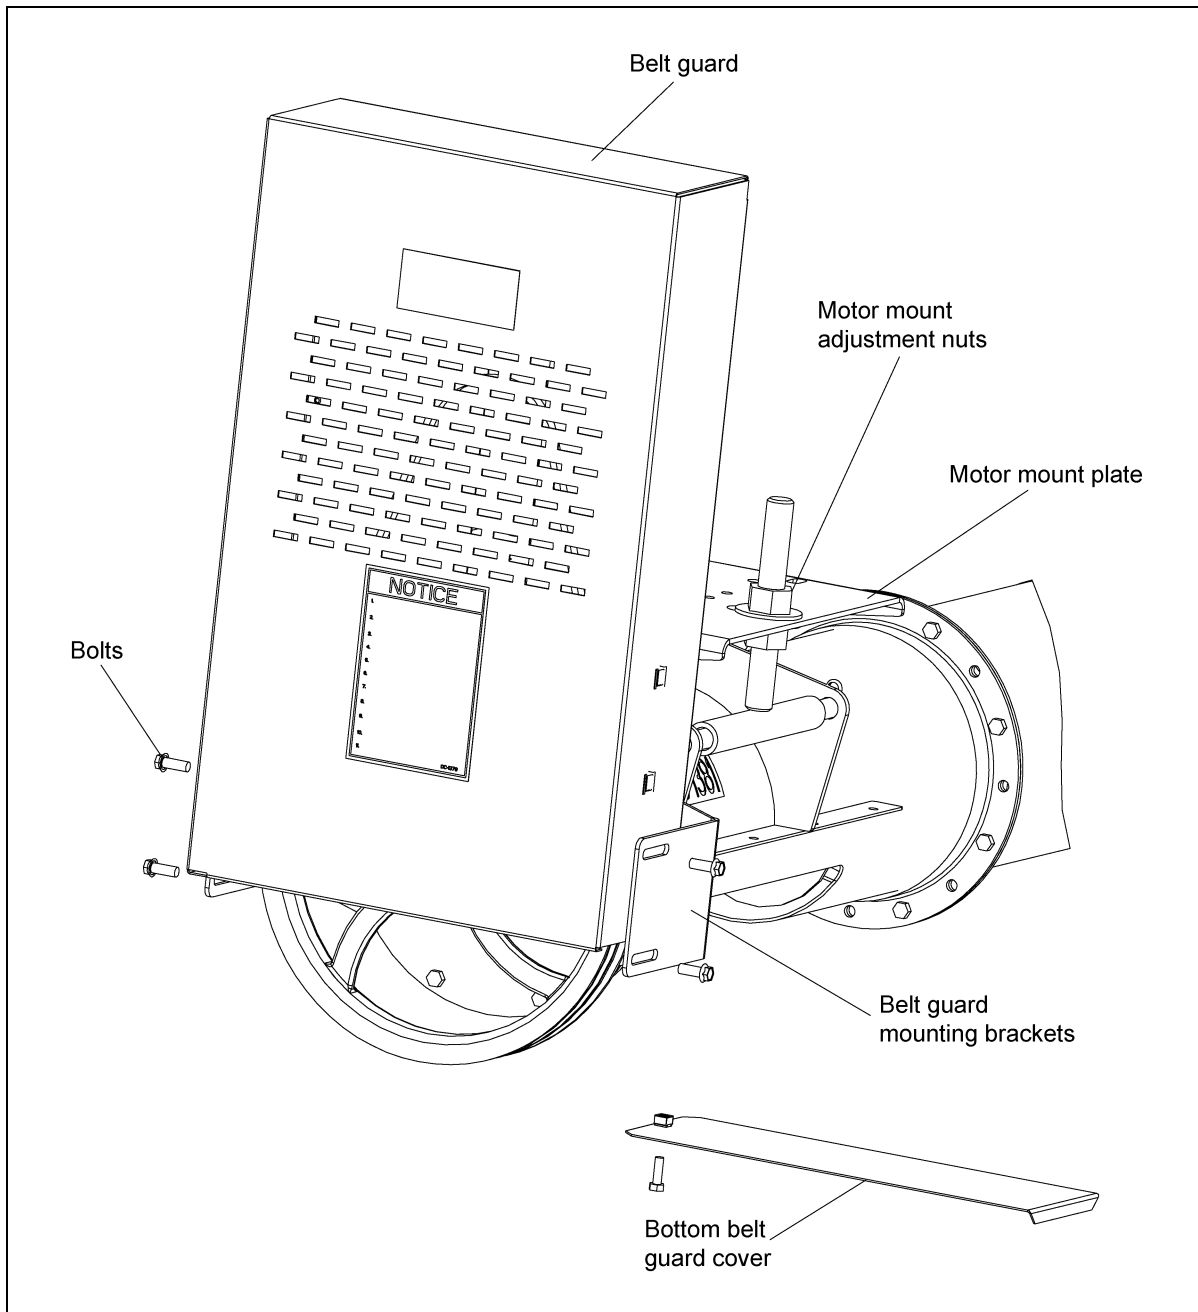

Figure 4Q
- C. Align the motor shaft and the flight drive shaft in the belt guard's slot, making sure that the belt guard **DOES NOT** contact either pulley, and tighten down the belt guard mounting brackets to the bearing plate. (See Figure 4Q.)